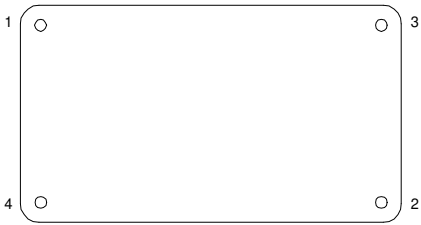

Fig. 1
3. Loosely assemble cover screws in sequence shown in figures 1 and 2 below and do not tighten completely.